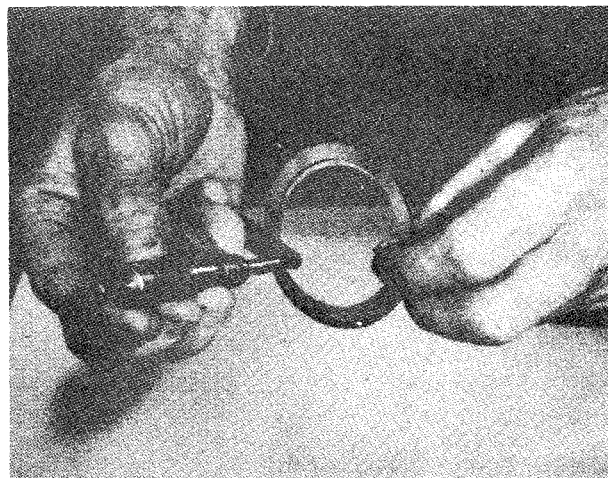

Fig. 21
- (iv) Although the packing shims are supplied to nominal thicknesses, the dimensions should be measured with a micrometer gauge. It is important that no damaged shims are used and that they are thoroughly cleaned before measurement. (Fig. 21.)